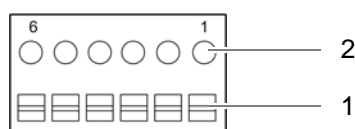

Figure 11.16 Alarm input/output module - connection
2. Cautiously press the lever (1) downward to open the clamps of the connectors (2), refer to Figure 11.16.
3. Remove the wires of the external alarms from the corresponding clamps of the alarm input/output module, refer to Figure 11.16 on page 198.
4. Remove any installed alarm jumpers (3), refer to Figure 11.16 on page 198. You will need them again.